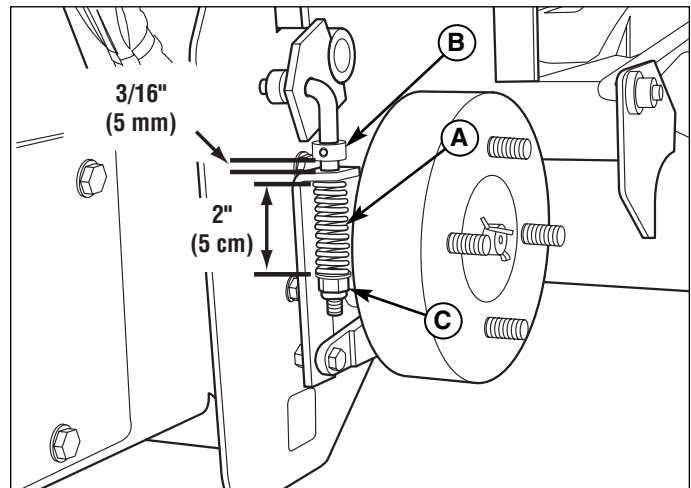

**Figure 23. Cutting Height Adjustment**
The cutting height adjustment pin (A, Figure 23) controls the mower cutting height. The cutting height is adjustable between 1-1/2" (3,8 cm) and 4-1/2" (11,4cm). Pulling the lever back fully locks the control in transport position.
1. Pull the adjustment lever (B, Figure 23) back fully until it locks in transport position.
2. Remove the cutting height adjustment pin (A) and insert it into the desired hole.
3. Pull back on the adjustment lever (B), squeeze the smaller transport release lever (C), and allow the lever to move forward until it is supported by the cutting height adjustment pin (A).